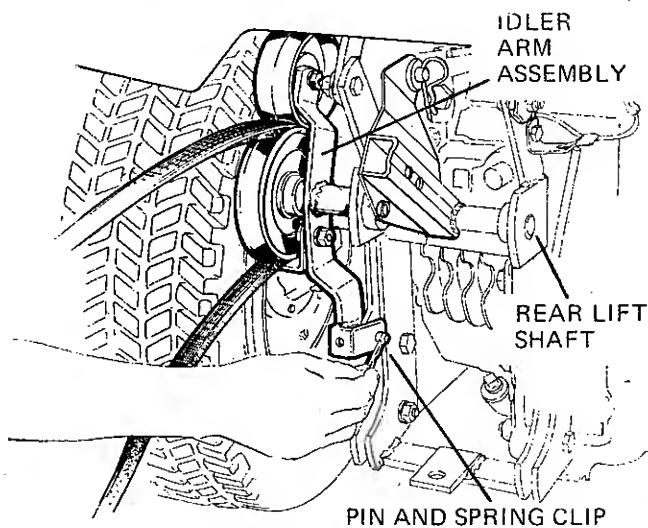

FIGURE 1
2. (See figure 1) Slide the idler arm assembly onto the left end of the rear lift shaft. Attach the lower end of the idler arm assembly to the hitch member with a pin and spring clip.